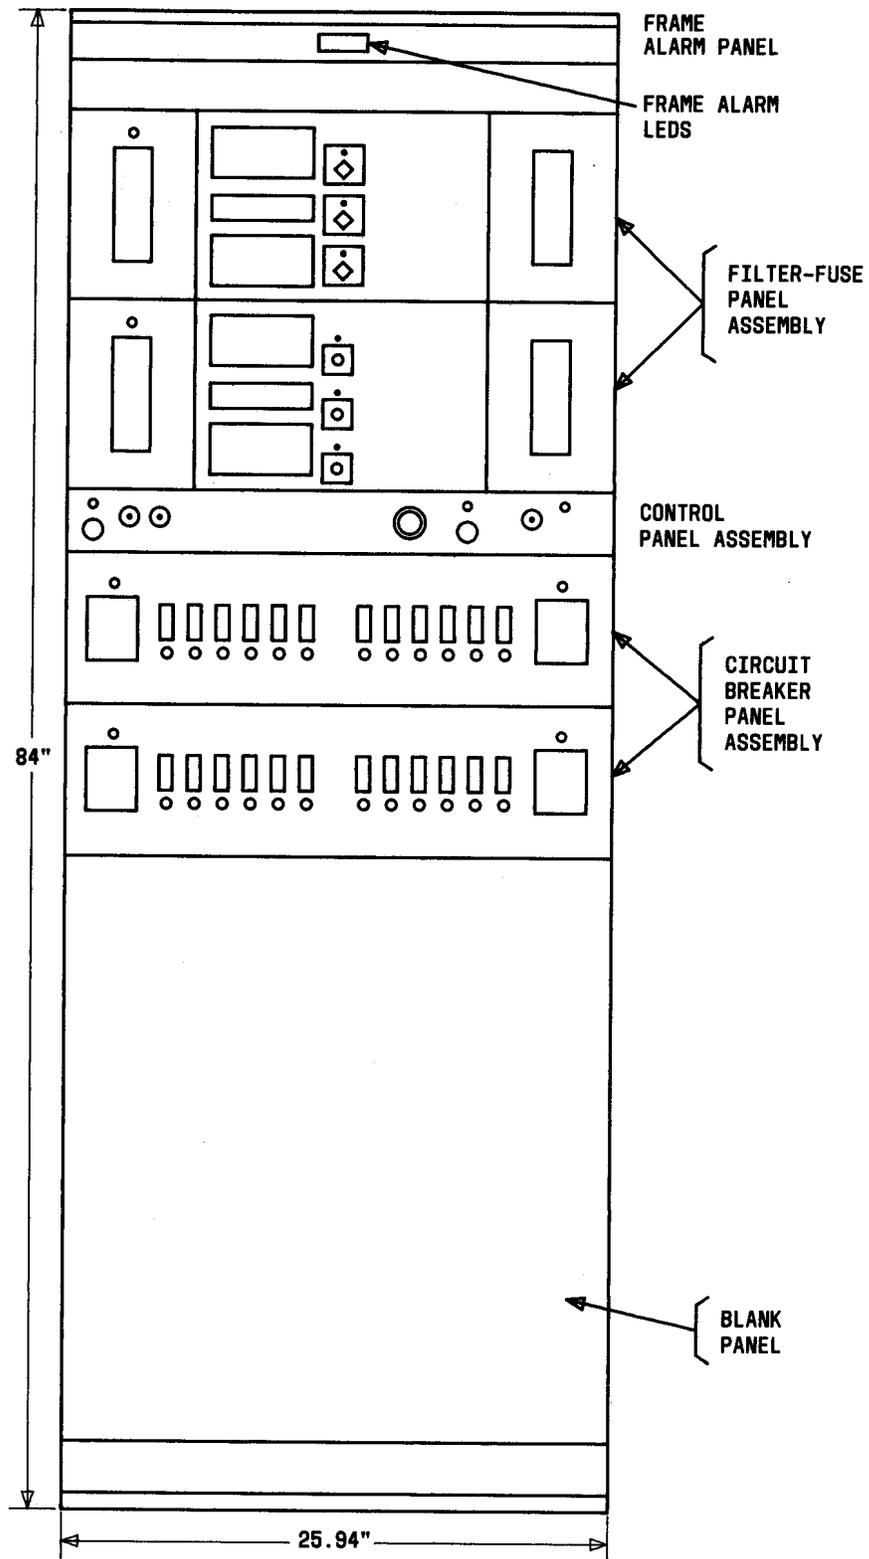

Fig. 1—J86334A DC Power Distributing Frame
2.02 The common use power distributing frame (See Fig. 1) is 7 feet high, 26 inches wide, and 24 inches deep. The basic frame includes stile strips, base covers with or without appliance outlets, a frame alarm panel (four LEDs wired in